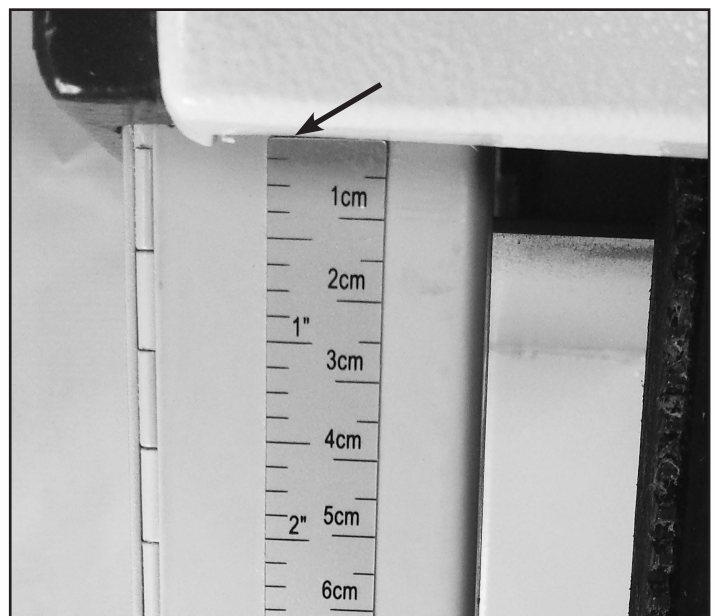

FIGURE 6
2. The scale should be positioned to the right side of the metal blade guard with the top of the scale in line with the underside of the frame. This is the beginning "0" location. The scale markings should increase as you read down the scale. Figure 6.